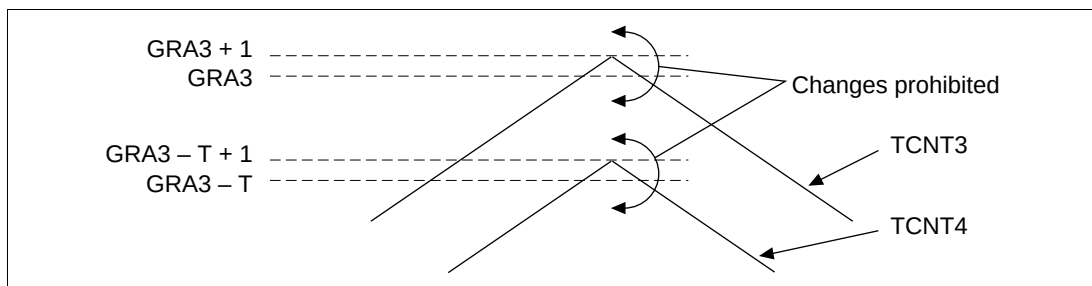

**Figure 10.39 Caution on Changing GR Settings with Buffer Operation (1)**
**Buffer Transfers when Changing from Increment to Decrement:** When the contents of GR are in the range  $\text{GRA3} - T + 1$  to  $\text{GRA3}$ , do not transfer a value outside this range. When the contents of GR are outside this range, do not transfer a value within it. Figure 10.39 illustrates a point for caution regarding changing of GR settings with buffer operation.